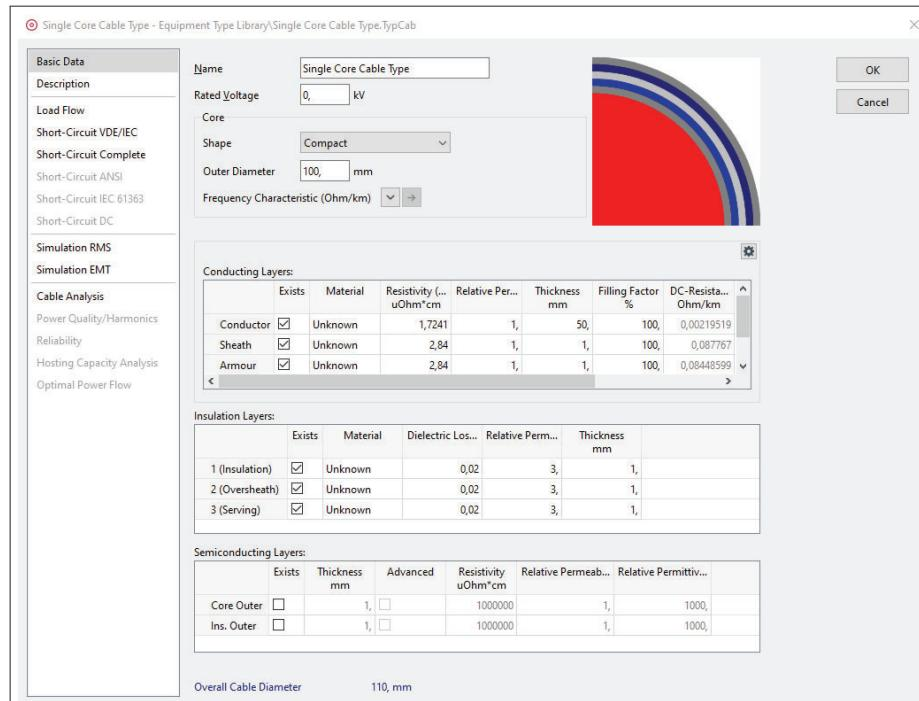

Figure 11.3.9: Single Core Cable Type (*TypCab*)
5. On the Basic Data page of the dialog of the Single Core Cable type, shown in figure 11.3.9, the rated voltage, and details of the core construction should be defined along with the characteristics of the various conducting, insulating and semi-conducting layers from which the cable is constructed. If a sheath or armour is to be considered then the relevant checkbox should be selected to confirm that it exists.